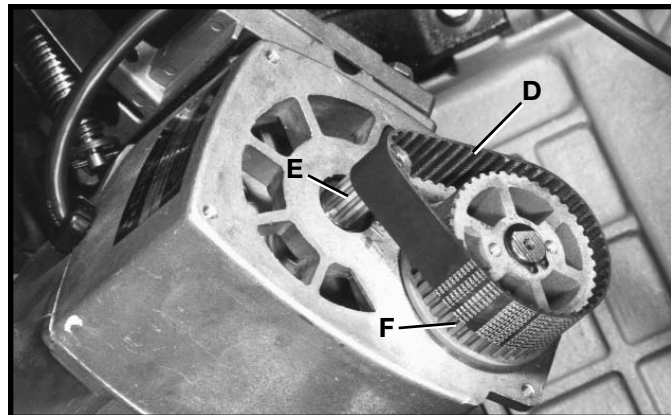

Fig. 67
6. Place new belt (D) Fig. 67, on teeth of arbor pulley (F) and motor shaft (E) as shown. Push in belt (D) and at the